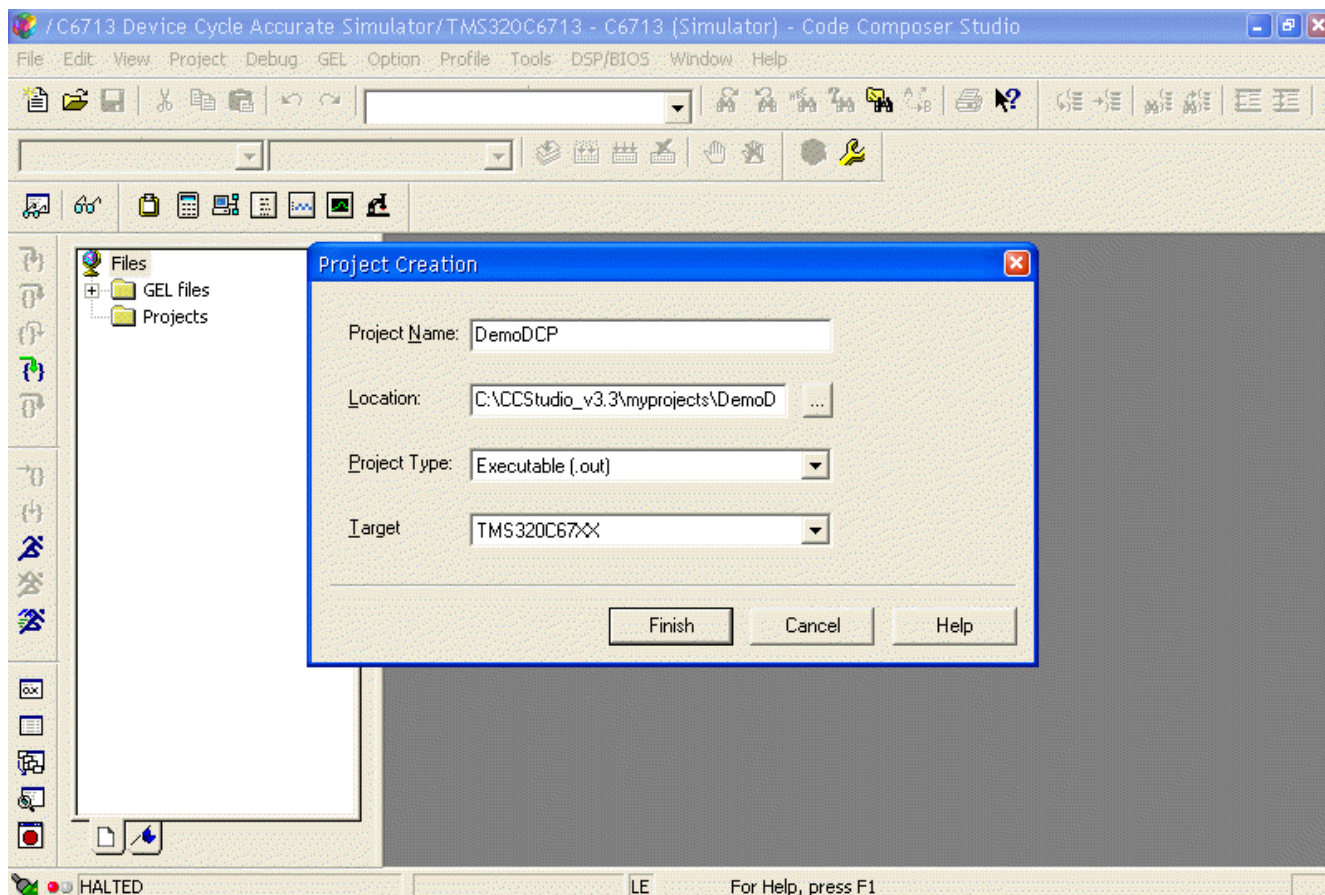

Figure 1. CCS Project Creation
- Select *CCS menu* → *Project* → *New...* to create a new project, as shown in Figure 1; or